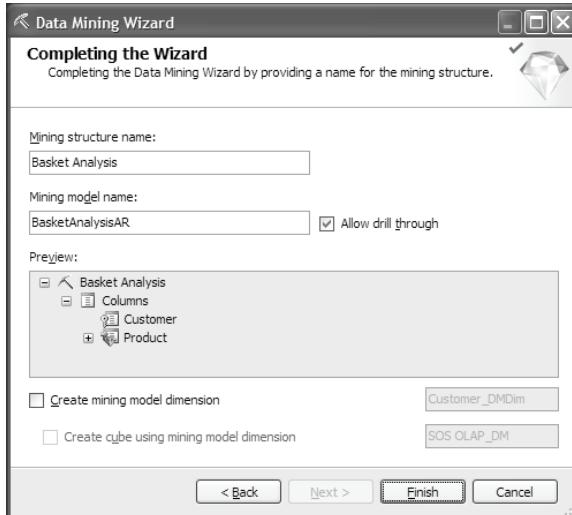

Figure 8.15 Enable drillthrough to see the underlying data in the data source.
12. In the Completing the Wizard step (Figure 8.15), name the structure **Basket Analysis** and the mining model **BasketAnalysisAR**. Check the "Allow drill through" checkbox. We won't be creating OLAP mining objects in this example, so leave the bottom two checkboxes unchecked.